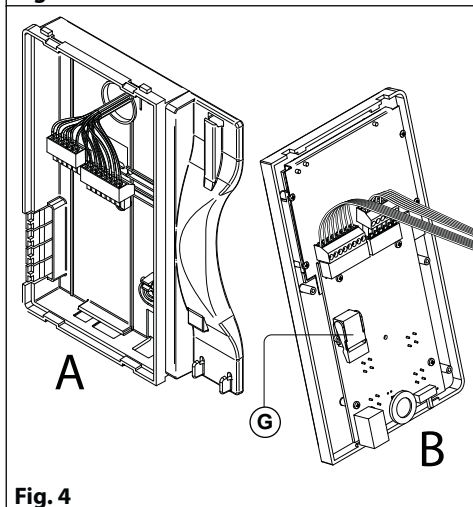

Fig. 4
3. Apply the **Y** silicon sealant on top of each module as shown in **Fig. 4**;